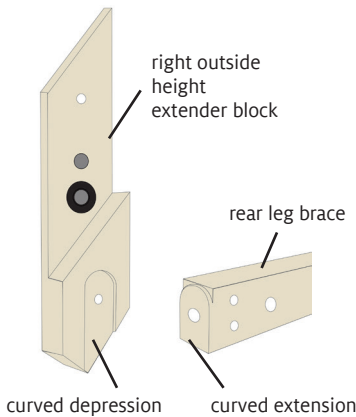

FIGURE 2: FIT OUTSIDE BLOCK ONTO REAR LEG BRACE
3. Fit the curved extension of the rear leg brace into the curved depression of the RO height extender block (Figure 2).